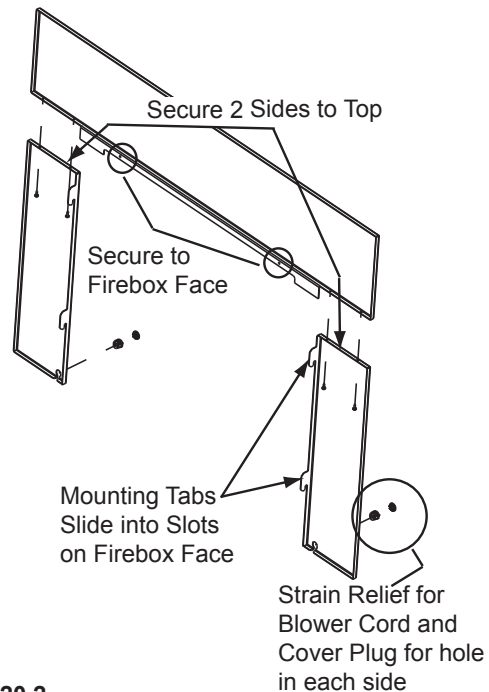

Figure 20.2
6. Align the 2 screws in the top surround piece to the 2 alignment holes on the appliance top. Secure in place (**Figure 20.2**).